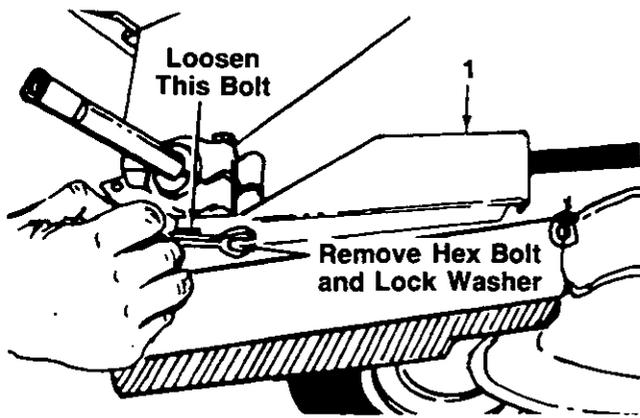

FIGURE 1.
4. Remove one hex bolt and lock washer at the front of lower outside belt guard. A 1/2" wrench is required. See figure 1.
5. Loosen (do not remove) the second bolt. See figure 1.